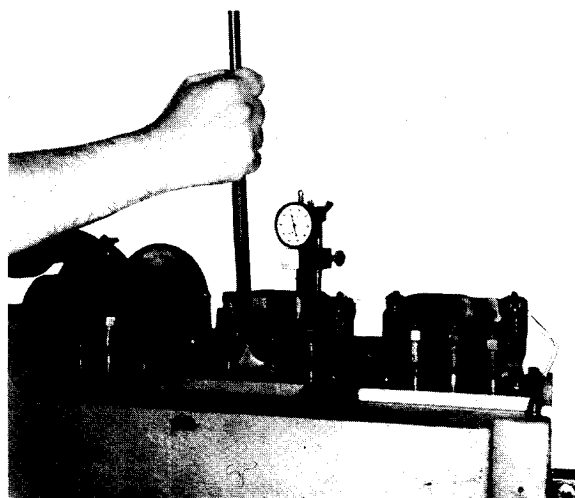

Fig. 2-54, (K114104). Actuating rocker lever
5. Using 3375009 Rocker Lever Actuator Assembly and Support Plate, bottom injector plunger, check zero (0) setting. Fig. 2-54. Allow plunger to rise